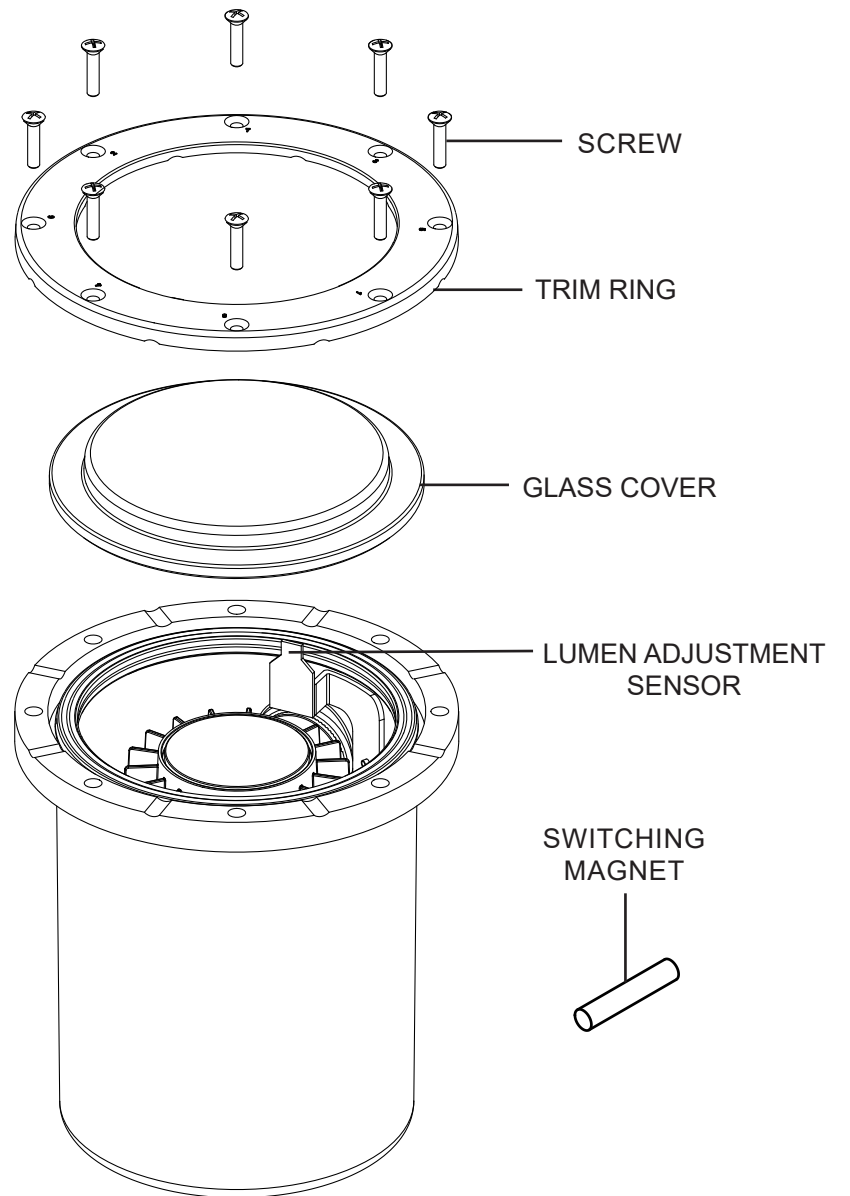

Figure 1
- Remove trim ring, glass cover and 8 screws, place hardware in a secure place. See Figure 1.
- Once beam is adjusted to the desired position, reassemble glass cover and trim ring using the 8 screws. See Figure 1.